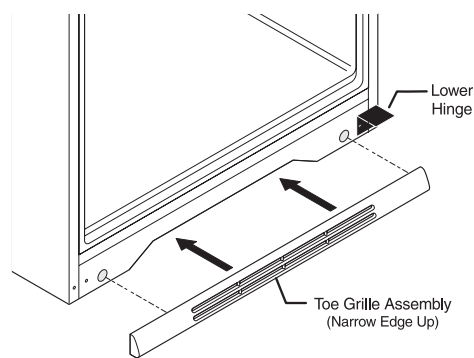

Figure 1
- Line up the Toe Grille Assembly over the two large holes on the front of the refrigerator base (See Figure 1).
- Push the Toe Grille Assembly into the holes until the grille snaps in place (See Figure 1).